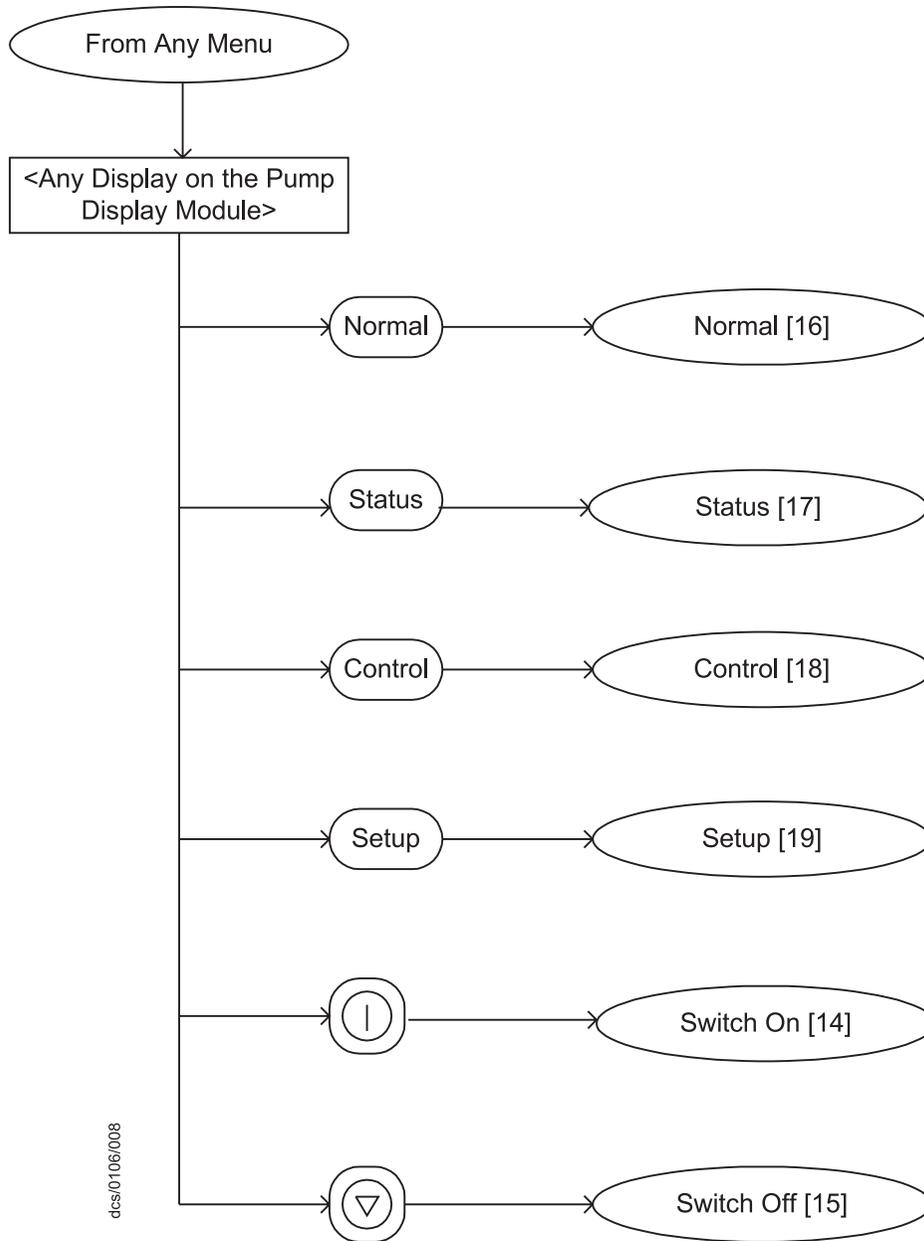

Figure 17 - PDT Menu logic
4. Connect the earth (ground) ring lug on the incoming mains supply cable to the earth stud on the connection box (Figure 17, item 1).
Do not disconnect the pump earth stud (Figure x, item x) or the connection box cover earth stud (Figure 17, item 1).
5. Connect the three phase ring lugs on the incoming mains supply cable from the tool to the three studs (Figure 17, item 2). Remove the two upper nuts and the washer, fit the ring lug and refit the washer and two nuts. (The connections are not phase dependant).
Menus used and the display messages shown on the Pump Display Terminal (PDT) are described in the menu diagrams in Figures 17 to 35. The following symbols and conventions are used in the menu diagrams:
In the menu diagrams in Figures 17 to 35, text shown without chevron brackets in the two-line display symbol is the actual text that will be shown on the display. In this text, the ' Δ ' symbol is used to show where a digit will be shown; the value of the digit depends on the sensor data or information you enter into the PDT.